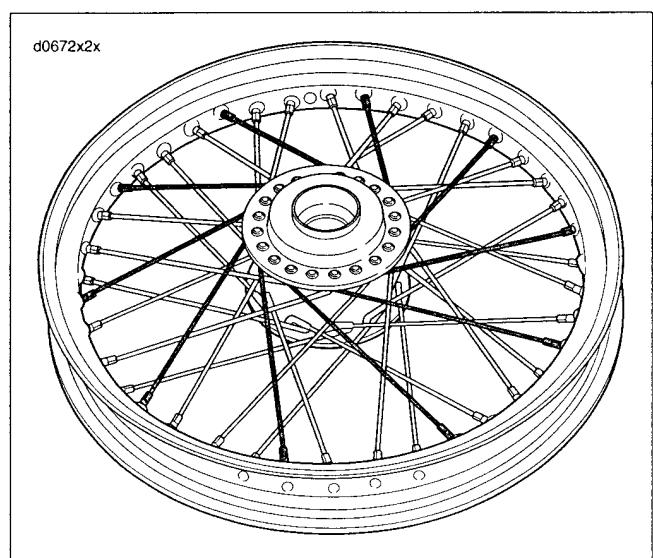

Figure 2-41. Completed Spokes-Top Flange Outer
- See Figure 2-41. Verify spoke reaches spoke nipple and secure spoke by hand. Follow pattern to complete top flange outer spokes (short head).